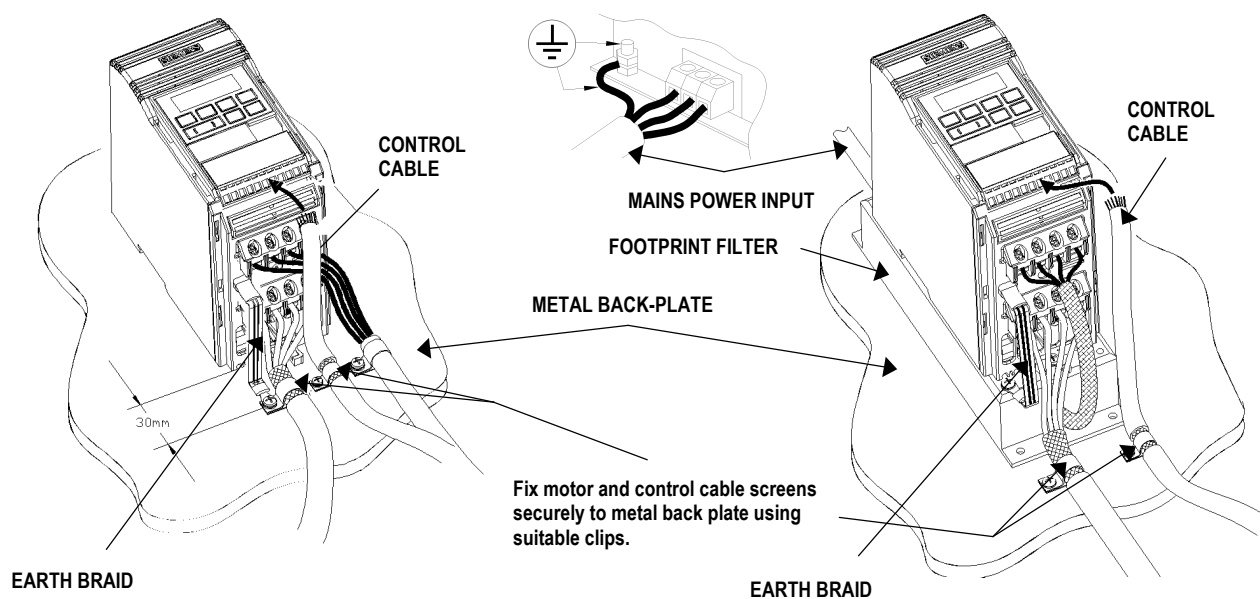

Figure 1.2.1: Wiring guidelines to minimise effects of EMI - MICROMASTER Vector Frame Size A
The inverters are designed to operate in an industrial environment where a high level of Electro-Magnetic Interference (EMI) can be expected. Usually, good installation practices will ensure safe and trouble-free operation. If problems are encountered, the following guidelines may prove useful. In particular, grounding of the system at the inverter, as described below, may prove effective. Figures 1.2.1-1.2.3 illustrate how an RFI suppression filter should be installed and connected to the MICROMASTER Vector.
- (2) On the MIDIMASTER Vector, use saw-tooth washers when mounting the inverter and ensure that a good electrical connection is made between the heatsink and the panel, removing paint if necessary.
- (3) Wherever possible, use screened leads for connections to the control circuitry. Terminate the ends of the cable neatly, ensuring that unscreened wires are as short as possible. Use cable glands whenever possible.
- (4) Separate the control cables from the power connections as much as possible, using separate trunking, etc. If control and power cables cross, arrange the cables so that they cross at 90° if possible.
- (5) Ensure that contactors in the cubicle are suppressed, either with R-C suppressors for AC contactors or 'flywheel' diodes for DC contactors, **fitted to the coils**. Varistor suppressors are also effective. This is particularly important if the contactors are controlled from the relay on the inverter.
- (6) Use screened or armoured cables for the motor connections and ground the screen at both ends via the cable glands.
- (7) If the drive is to be operated in an Electro-magnetic noise-sensitive environment, the RFI filter should be used to reduce the conducted and radiated interference from the inverter. For optimum performance, there should be a good conductive bond between filter and metal mounting plate.
- (8) For Frame Size A units (Fig.1.2.1), the flat earth braid strap, supplied with the unit, should be fitted to minimise emissions.